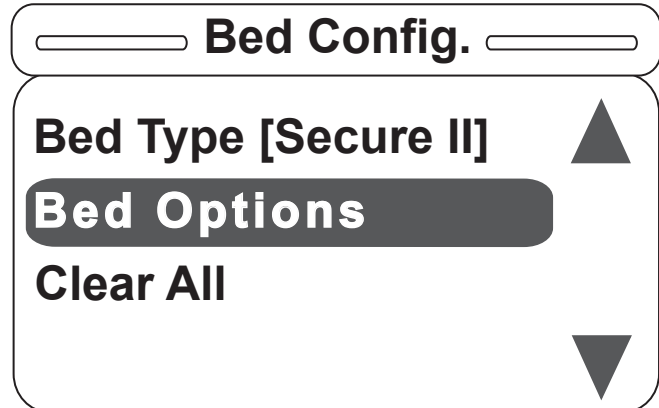

Figure S-4
- Once the bed type is selected, the Bed Options item becomes available as shown in Figure S-4. Note that you can also see the Bed type that you've previously selected. Press "Enter" on the footboard panel to choose the Bed Options for the product. If needed, press "Exit" to cancel the operation.